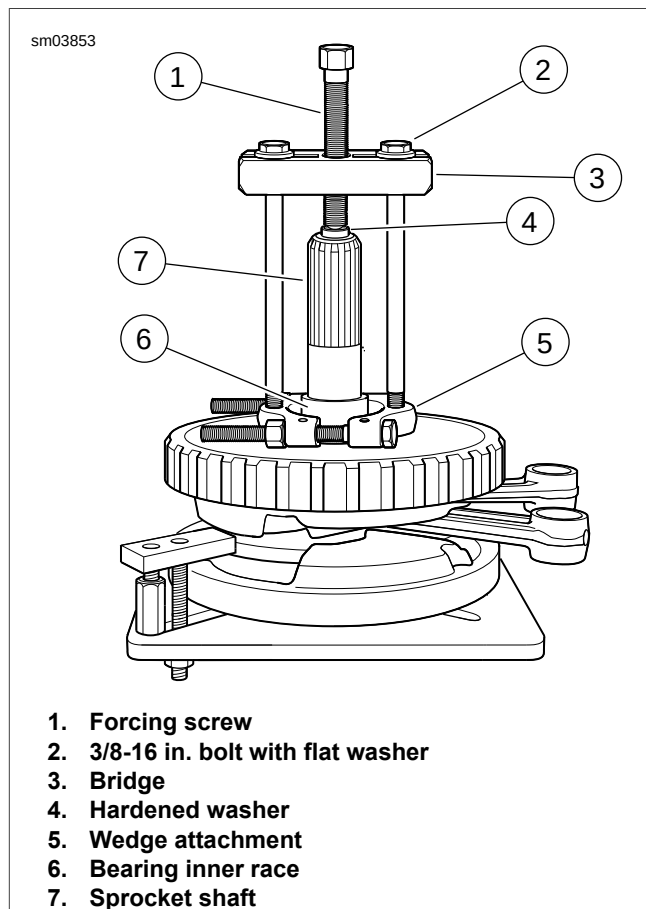

Figure 3-140. Remove Inner Race from Sprocket Shaft
13. See Figure 3-140. Verify that the tool assembly is square, so that the bearing inner race is not cocked during removal.